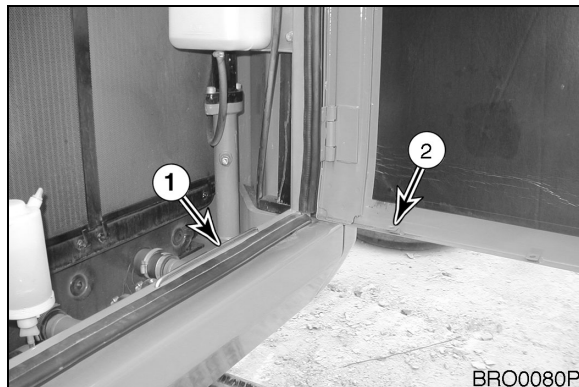

Figure 102
Pull out prop rod (1, Figure 102) from housed position and insert it into hole (2) to secure side access door.